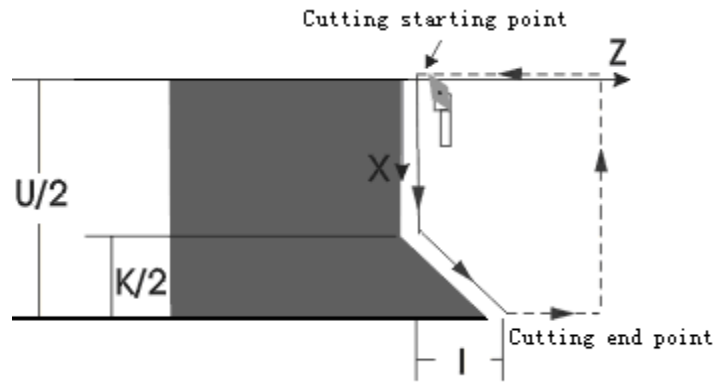

Fig. 4-24
- 3) G92 end face thread: as Fig. 4-24